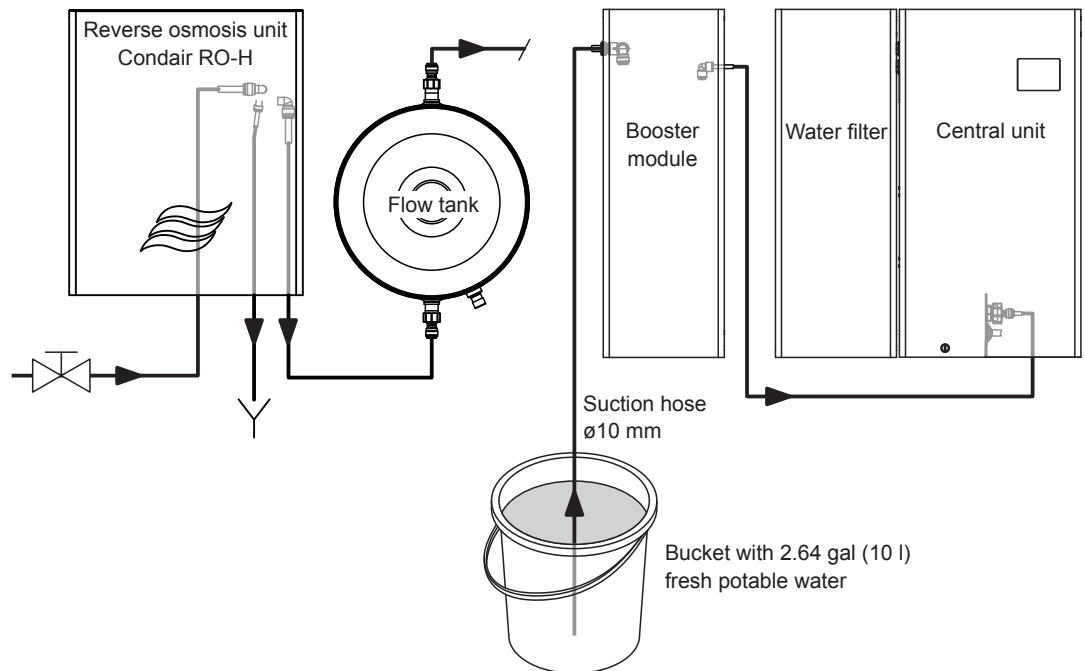

Fig. 52: Schematic diagram of the hose layout for flushing of MN single systems with RO-HB
- Immerse the suction hose $\varnothing 0.39''$ ($\varnothing 10$ mm) in the bucket with the fresh potable water (see Fig. 52).